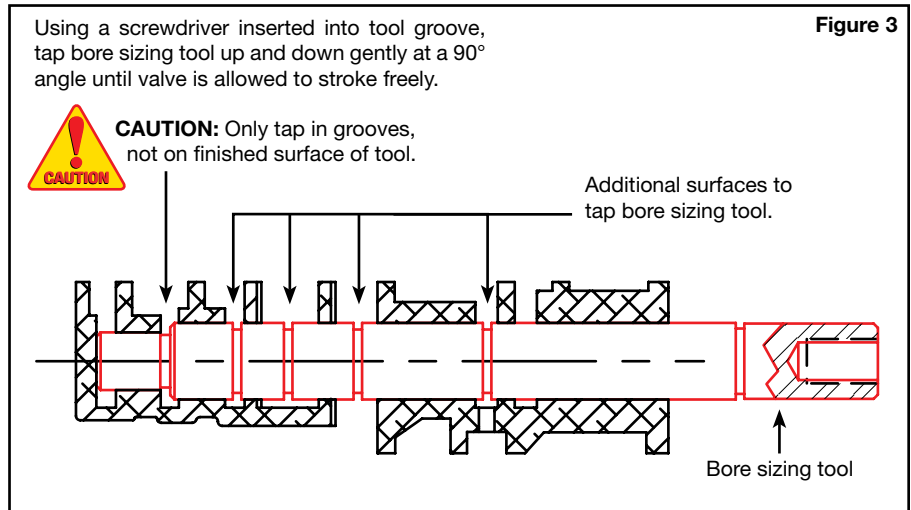

Figure 3
- c. If Sonnax valve and/or sleeve do not move freely, reinstall bore sizing tool and tap tool back and forth using a hammer and screwdriver inserted through the ports and into tool grooves (**Figure 3**). Repeat process until valve strokes freely.